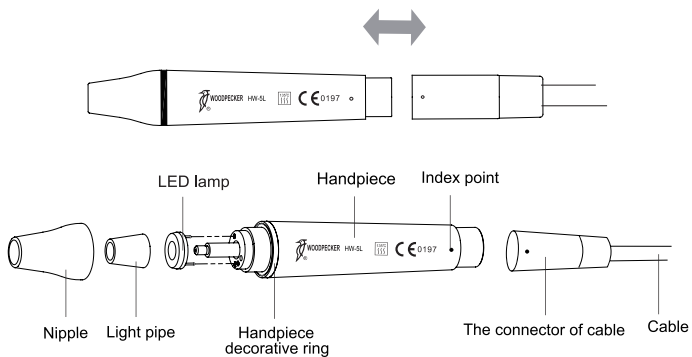

Figure 5
① Don't pull out the handpiece when the foot switch is stepped on and the machine is producing ultrasonic vibration.
② Please don't choose dry mode unless needed in the treatment, please don't make the machine work under dry mode for a long time. The teeth will be hurt if the handpiece and tips get overheat during the treatment.
2.1.2 Instruction for main components of detachable handpiece (See Figure 5):